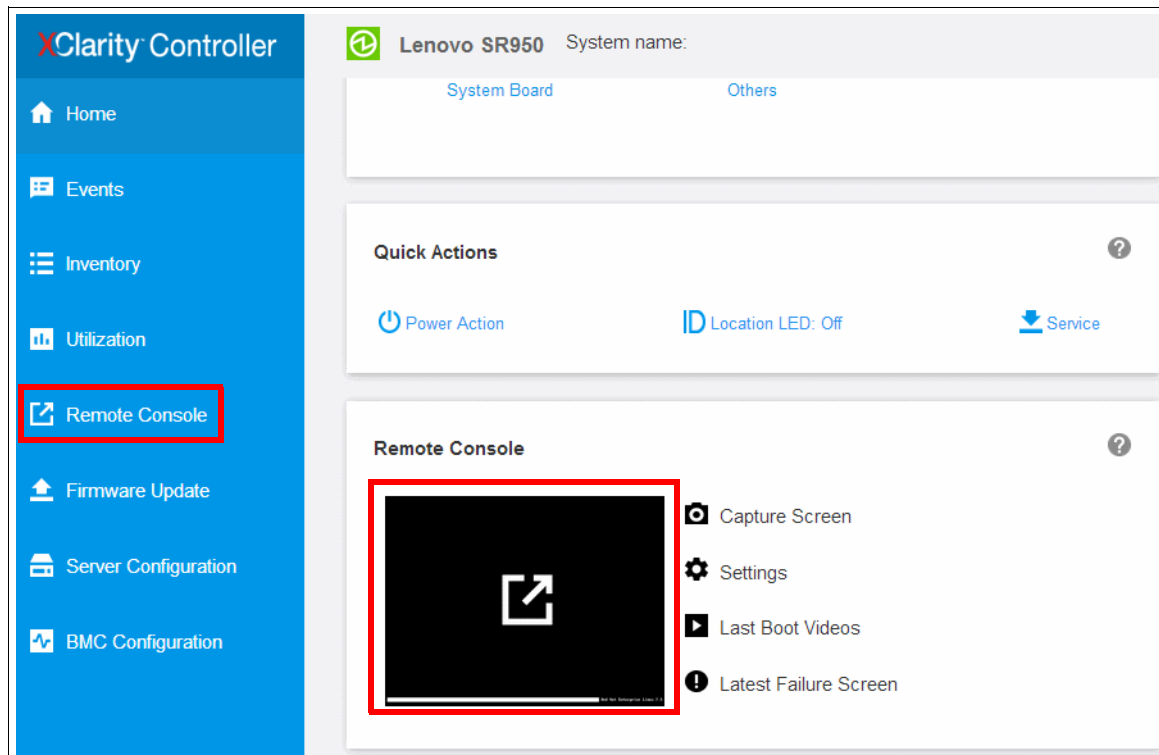

Figure 6-3 Remote console access in XCC
6. From the XCC interface, click the **Remote Control** option either via the bottom of the home page in XCC or via the left hand menu, as shown in Figure 6-3 on page 187.